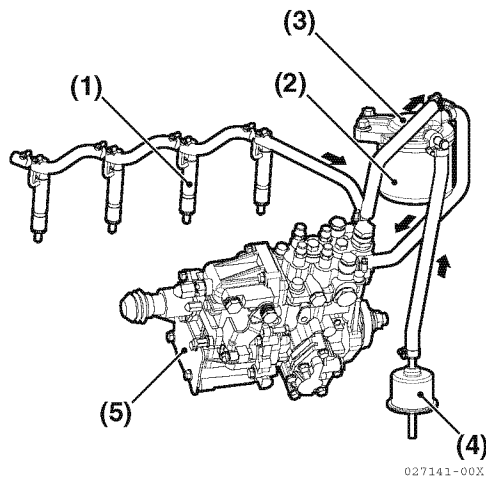
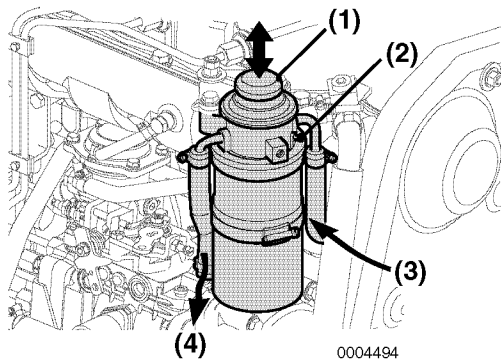

Figure 5-12
Figure 5-13
12. Remove the fuel filter (**Figure 5-12, (2)**) and (**Figure 5-13**).